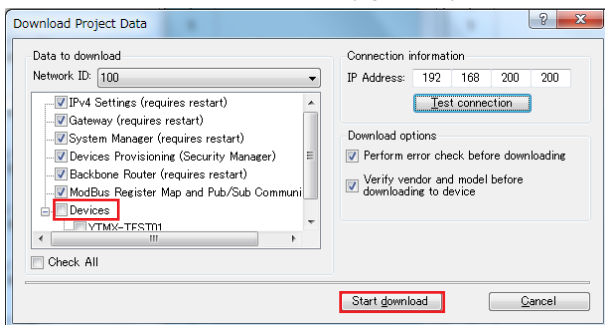

Figure 25
- ③ Under Data to download, clear the Devices check box, and then click Start download (figure 25).